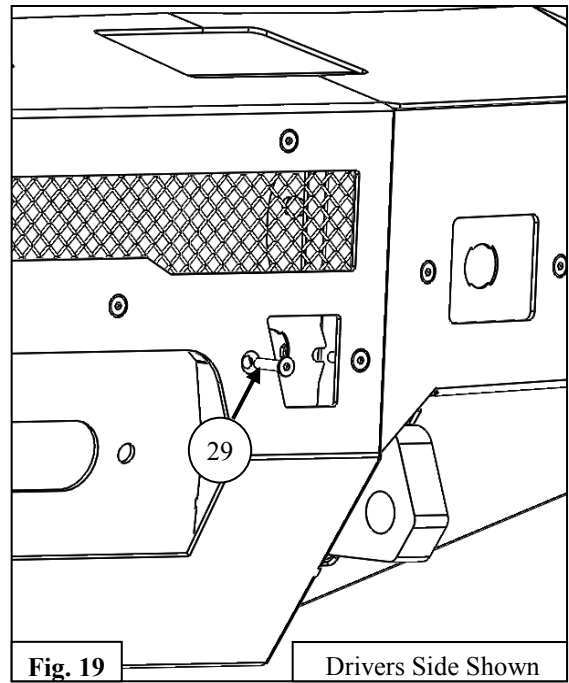

Fig. 19
12. After you remove the sensors and harness, reinstall them on the new bumper. See **Figures 19** for a reference on routing the harness through the bumper and how to install the parking sensors.